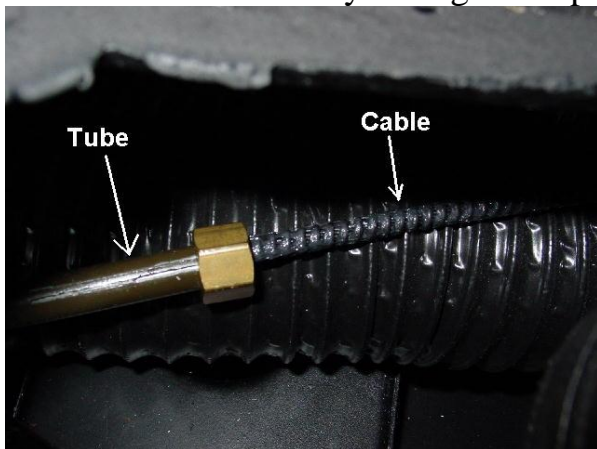

Fig.15
10. The cable that runs through the tube will be left attached to the wiper motor. *Fig. 15*